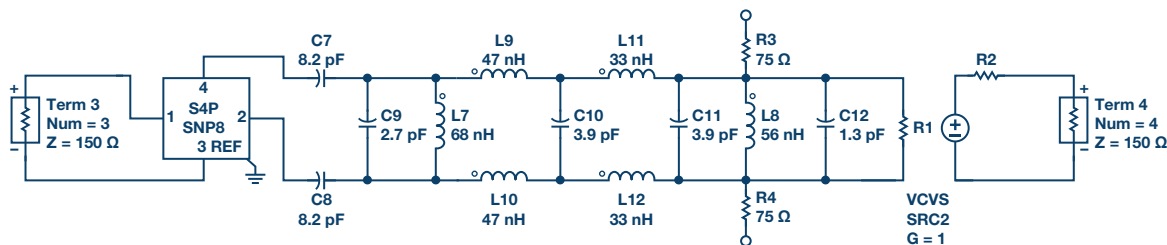

Figure 19. Differential band-pass filter.
4. For subsystem level simulation, add the ADL5201 DGA S parameter file at the input, use the voltage control voltage source to model the AD6641 ADC at the output of the filter. To change the low-pass filter into a band-pass filter, add two shunt inductors: L7 in parallel with C9 and L8 in parallel with C11. C12 represents the AD6641 input capacitance. R3 and R4 are two load resistors put at the input of AD6641 to be the load of filter. The AD6641 input is high impedance. After tuning, see Figure 19.